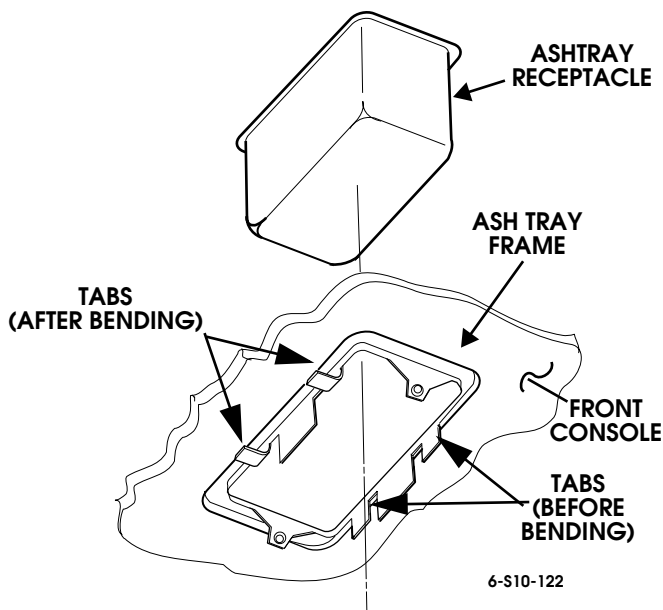

Figure 10-25: Ashtray Mounting
2. Pull ashtray receptacle out of frame (Figure 10-25).
2. Push ashtray receptacle into frame (Figure 10-25).